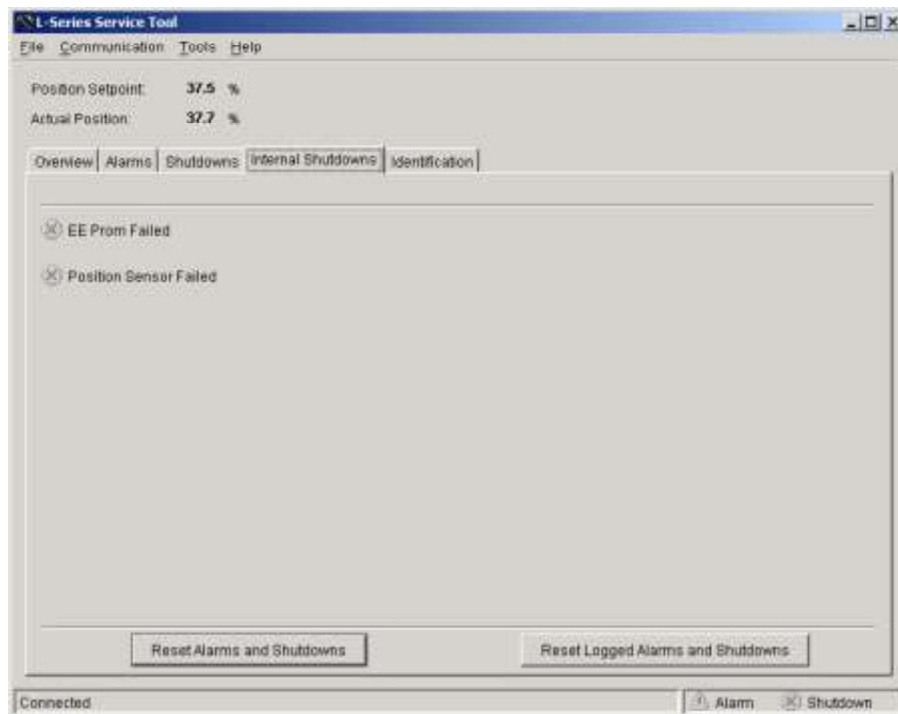

Figure 4-14. Service Tool – Internal Shutdowns Tab
- Internal Shutdowns (Figure 4-14)